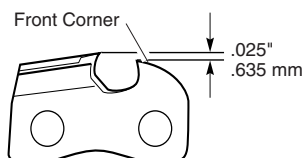

Figure 23 - Round Off Front Corner Of Depth Gauge
3. Remove depth gauge tool. With flat file, round off front corner of cutter depth gauge (see Figure 23).